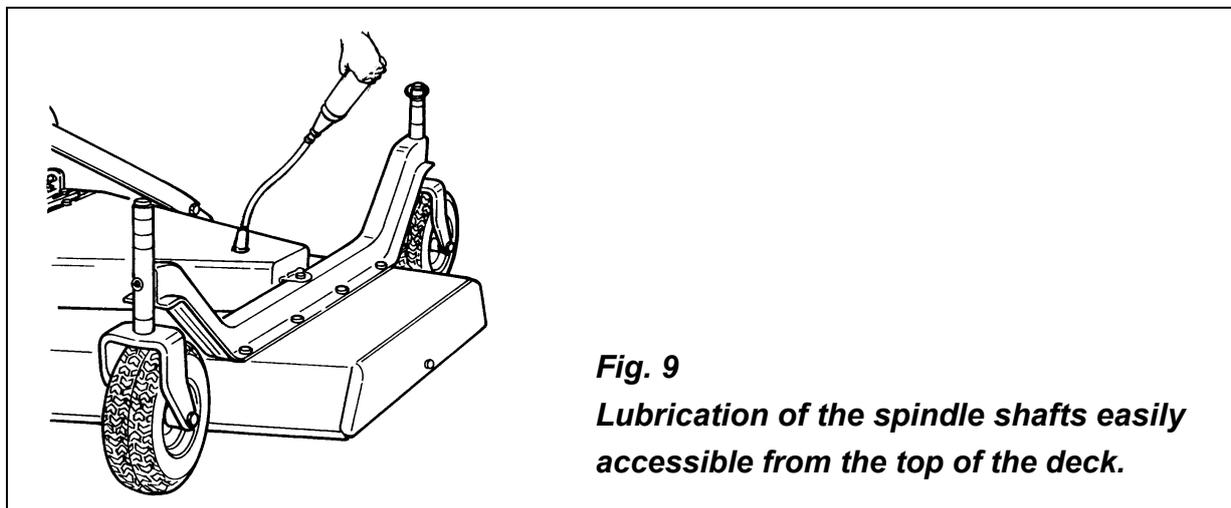

Fig. 9
1. lubricate the three spindles with two or three shots of multi-purpose grease (see fig. 9). The top grease fittings are easily accessible from the top of the deck by simply removing the plastic dust guards.